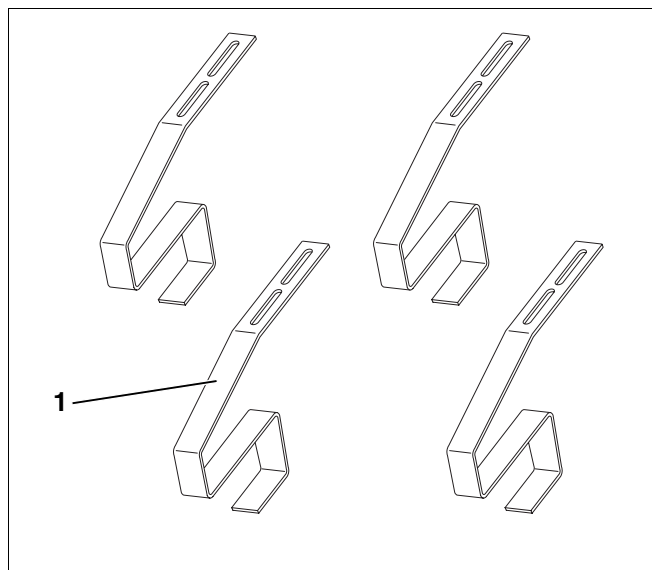

Fig. 6 Roof hook additional installation set – accessories
4.2.5 Roof hook additional installation set (for pantile and brick ridges; accessories, per collector) – Fig. 6